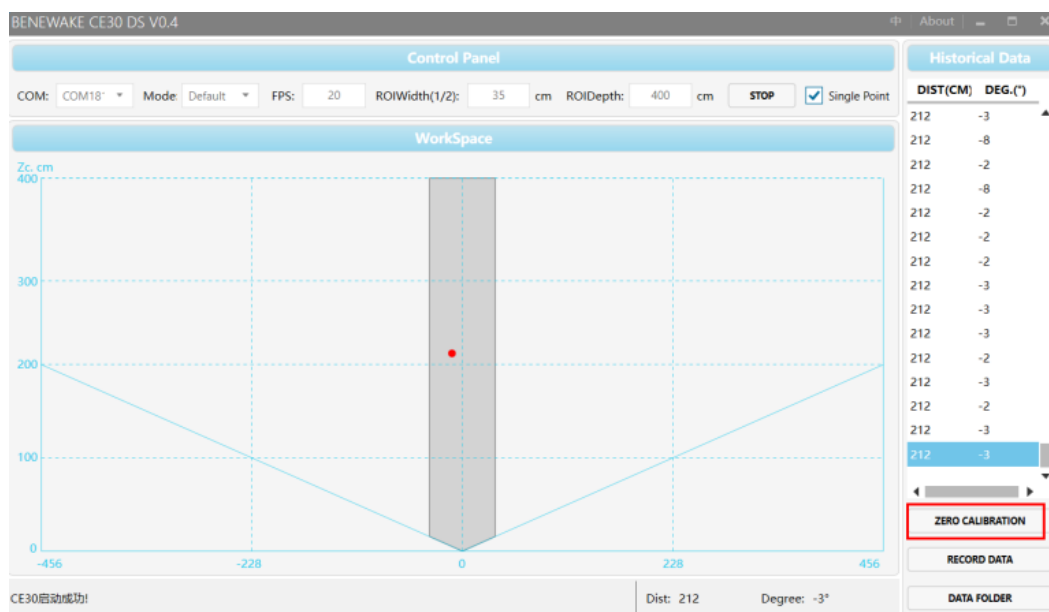

Fig. 8 Software “0 Angle Calibration” button
- 2) As shown in Fig. 8, click the “0 angle calibration” button on the software, and calibration instruction will be shown in Fig. 9.